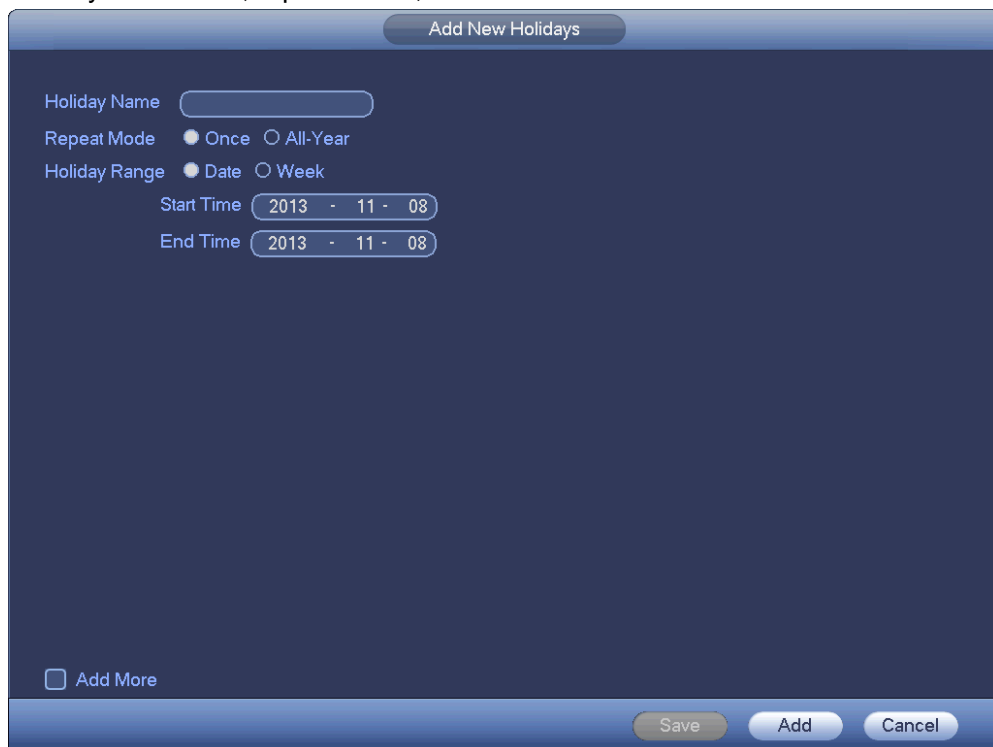

Figure 3-78
- b) Click Add new holiday button, you can see an interface shown as in Figure 3-78. Here you can set holiday date name, repeat mode, start time/end time and etc.